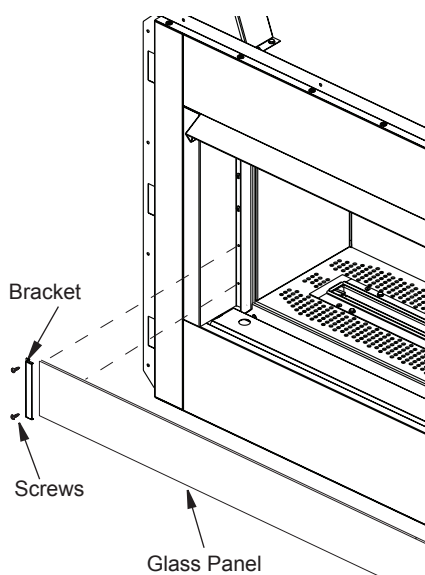

Figure 25 - Installing/Removing Glass Panel
The glass panel assembly should be installed after the fireplace is completely framed and finished. The brackets are attached to the front side face of the fireplace using two screws as shown in Figure 25. Position the glass panel in the bracket so that it is securely in place.
3. Remove glass panel (see Figure 25).